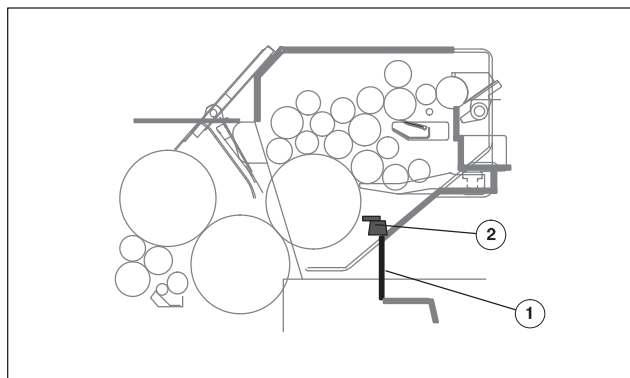

Fig. 37 Location of the feeder lamp
The feeder lamp (Fig. 37/2) is mounted on the cross bar facing the plate cylinder in PU 2.
4. Open the guard over the feeder (Fig. 37/1).
9. Close the guard above the feeder (Fig. 37/1).